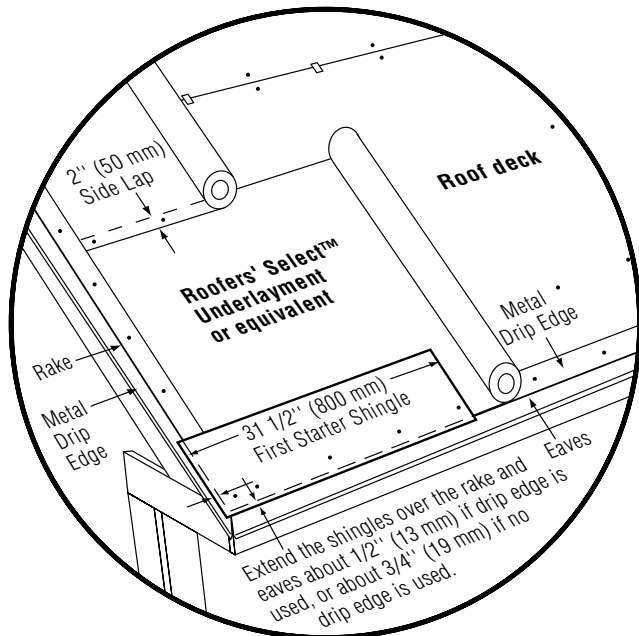

Figure 19-8: Standard slope underlayment and starter drip edge details.
- ◆ For both shingle styles, cut  $4\frac{1}{2}$ " off the length of the left side of the first starter strip and apply at the lower left corner of the roof. This  $31\frac{1}{2}$ " starter strip should overhang the rakes and eaves  $\frac{1}{2}$ " when drip edge is used or  $\frac{3}{4}$ " when no drip edge is used. Continue with full 36" lengths of starter strips all along the eaves (Figure 19-8).